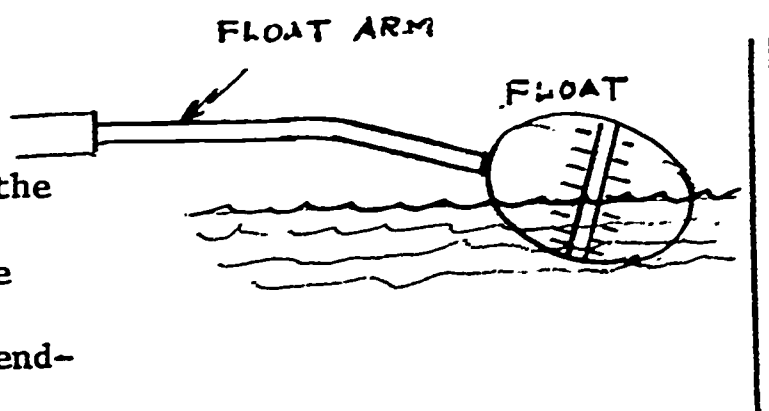

FIG. 319
- c. If water cuts off, the float may be defective or the ball support may have to be bent slightly downward. Bending the arm downward will also limit the amount of water entering tank. See figure 319.